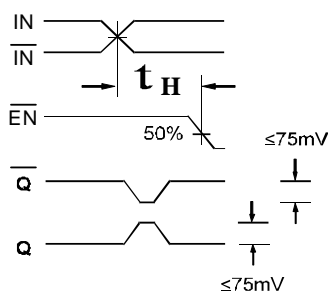

Figure 2. Hold Time
- The hold time is the minimum time that EN must remain asserted after a negative going IN or a positive going  $\bar{IN}$  to prevent an output response greater than  $\pm 75mV$  to that IN/  $\bar{IN}$  transition (see Figure 2).